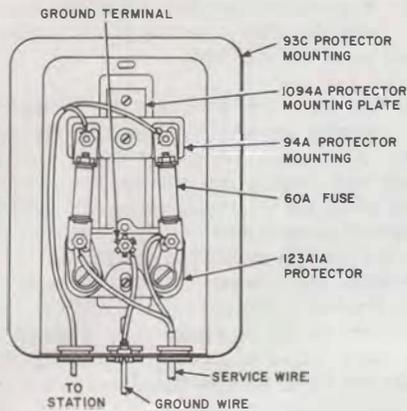

Fig. 82—Fuseless Protector Equipped With Sneak Current Fuses, Outdoor Installation
11.09 Fig. 82 shows a fuseless protector equipped with 60A fuses for outdoor installations.